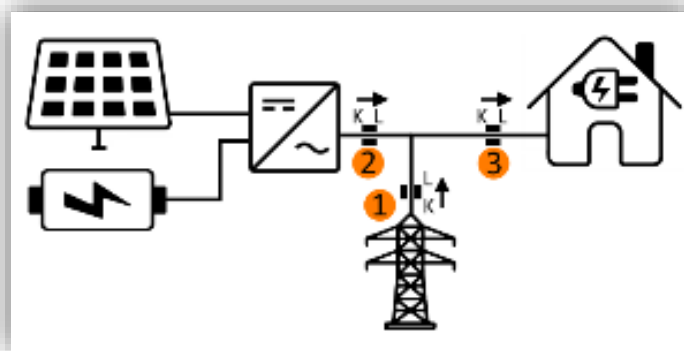

Figure 112. Installation diagram with solar panels and battery
This section defines the points of the installation where the measurements must be taken to have a correct operation of the global tab of the energy monitor. Figure 112 shows the diagram of an installation with solar panels and battery:
- **Installation without solar panels or battery:** only point 1 shown in the diagram in Figure 112.